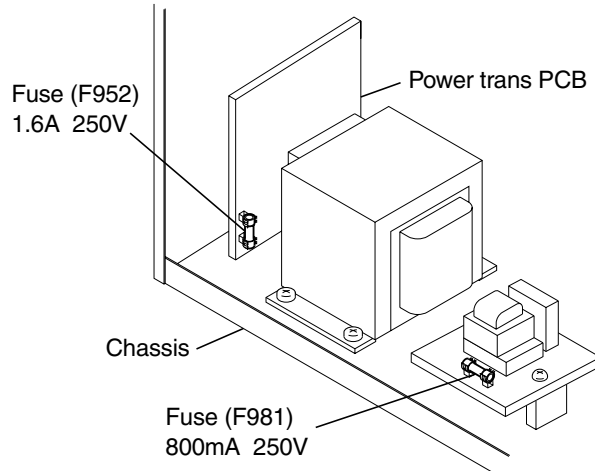
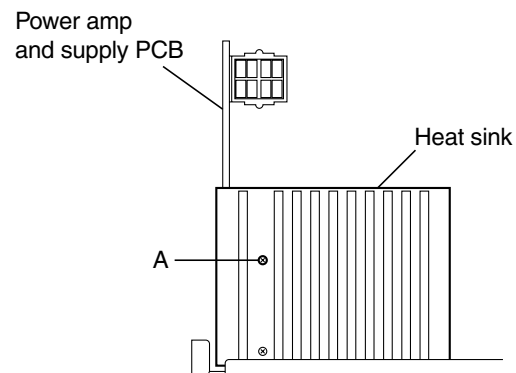

Fig.1
Fig.2
3. Solder is put up before the card wire is removed from connector CN601 on the main board as shown in Fig.1 and Fig. 2.
■ Replacing the fuses (See Fig.1)
■ Replacing the power IC (See Fig.2 and 3)